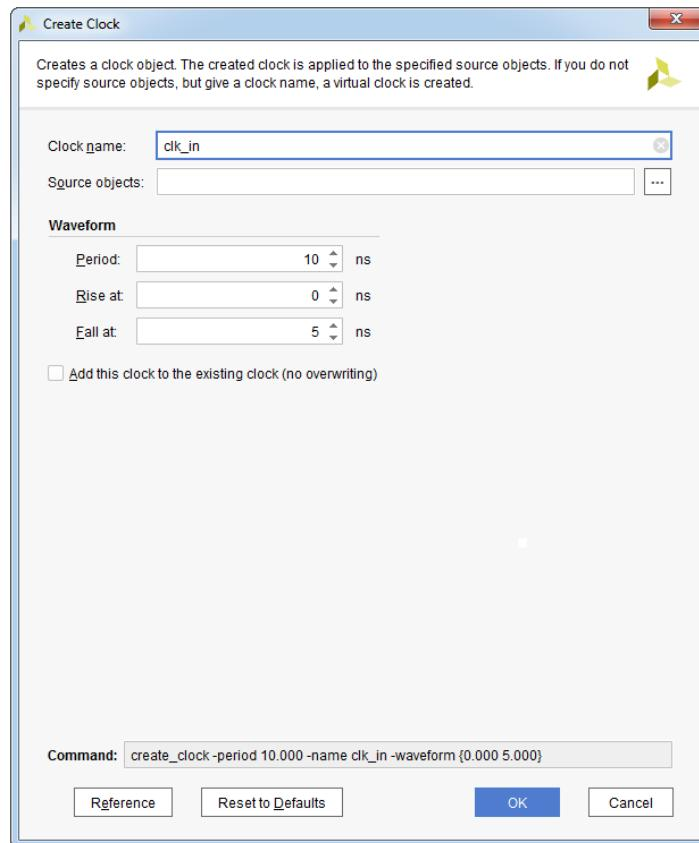

Figure 10.15: Create Clock dialog box
2. In the **Constraints tree view** window of the Timing Constraint editor, double-click on the **Create Clock (4)** option under the **Clocks** section to create a clock constraint.
3. In the **Create Clock** dialog box, enter *clock_name* (*clk_in*) in the **Clock name** field, see Figure 10.15.
4. Click the icon next to the **Source objects** field and **Specify Clock Source Objects** dialog box will appear, see Figure 10.15.